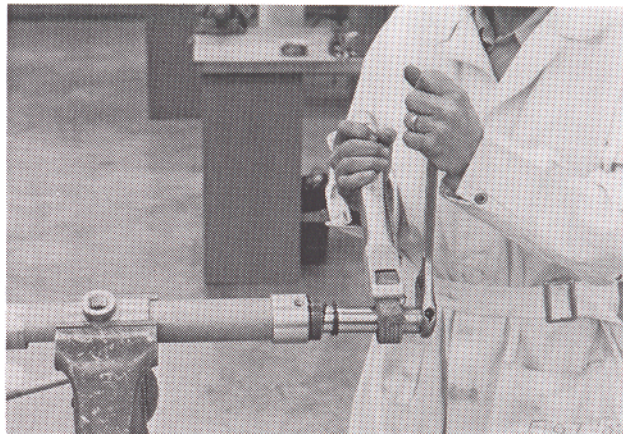

FIGURE 6
Reassemble (see Figure 6)
Replace the 60656 piston ass'y. (see Figure 6)
10. Unthread & drop down the **10** plunger from the **11** plunger tip by using a wrench on the flats of the **11** plunger tip & a strap wrench or pipe wrench on the **10** plunger. (see Fig. 6)
CAUTION: Place strap wrench or pipe wrench on the very upper most part of the **10** plunger (see Fig. 6).